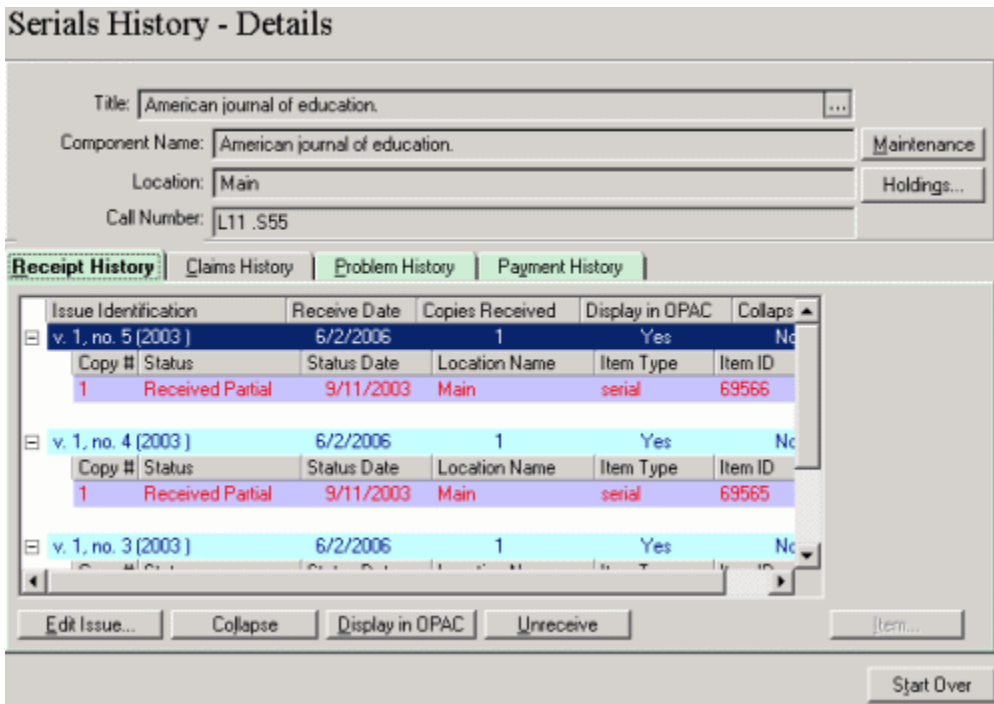

Figure 13-13. Serials History workspace - Holdings button displayed
- The **Holdings** button on the **Serials History** workspace. There are numerous ways to display the **Serials History** workspace (Figure 13-13). See Serials History Information on page 9-27 for more information.